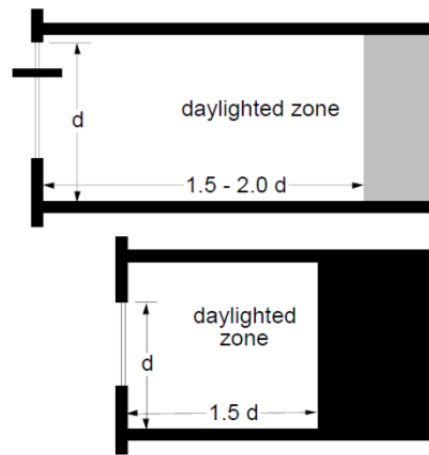

Figure 4: Typical daylight penetration rule-of-thumb
- **The higher the window, the deeper the daylighting zone.** The practical depth of a daylighted zone is typically 1.5 to 2 times the window head height, as shown in Figure 4. With a reflective light shelf, this zone may be extended further. If a corridor is beyond this zone and separated with a partially glazed wall, it may be adequately lit with the spill light from the room. With standard window and ceiling heights (between 9 and 10 ft; 2.7 to 3 m), plan on adequate daylight within 20 feet (6.1 m) from the window.